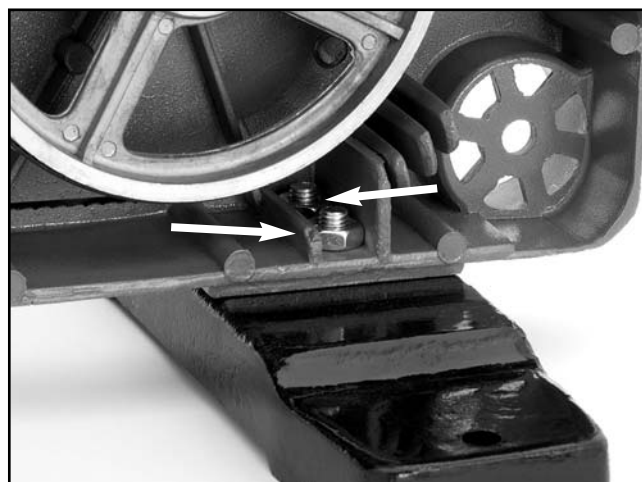

Figure 6. Base foot attached to the bandsaw.
2. Attach the base feet to the bottom of the bandsaw with the M8-1.25 x 25 hex bolts and the M8-1.25 hex nuts (**Figure 6**). Note—*The hex bolts extend up through the bottom of the feet, and through the bottom of the bandsaw, where they are secured with the hex nut.*